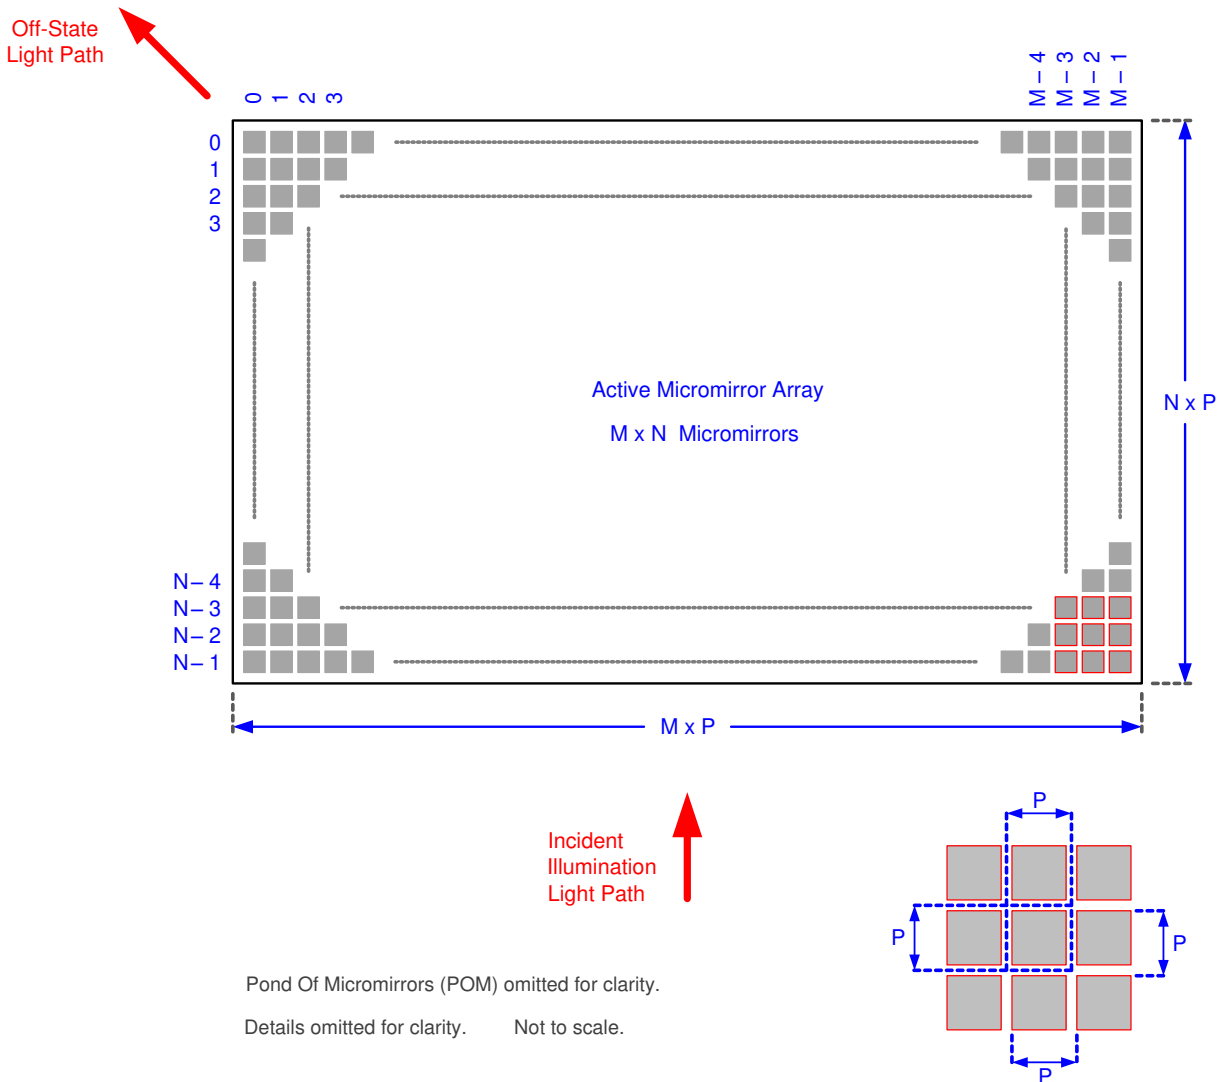

Figure 8. Micromirror Array Physical Characteristics
- (1) See Figure 8.
- (2) The fast switching speed of the DMD micromirrors combined with advanced DLP image processing algorithms enables each micromirror to display four distinct pixels on the screen during every frame, resulting in a full 3840 x 2160 pixel image being displayed.
- (3) The structure and qualities of the border around the active array includes a band of partially functional micromirrors referred to as the *Pond Of Micromirrors (POM)*. These micromirrors are structurally and/or electrically prevented from tilting toward the bright or ON state but still require an electrical bias to tilt toward the OFF state.